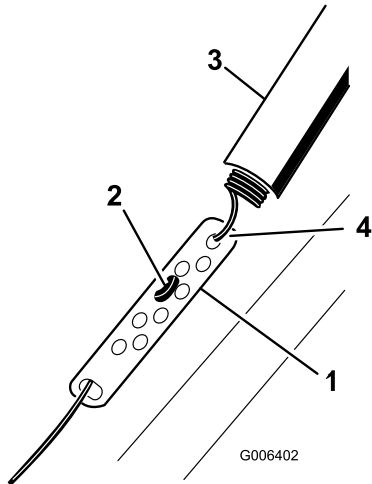

Figure 17
1. Slide up the spring cover and unhook the spring from the adjuster link (Figure 17).